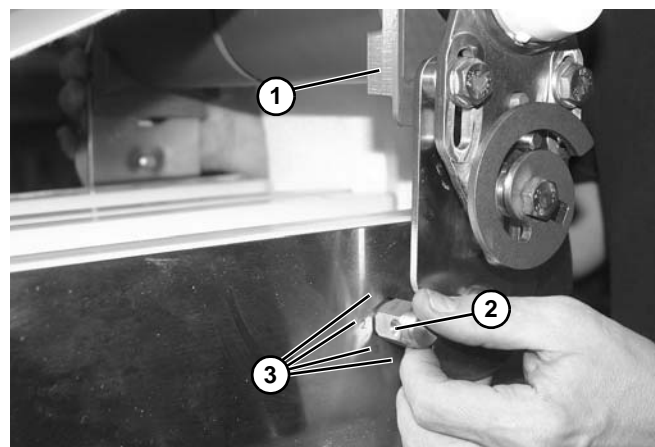

Figure 50
2. Rotate idler tail (Figure 50, item 1) up as shown. Pull out and rotate dimpled end of hex bar (Figure 50, item 2) into one of four locations (Figure 50, item 3) marked on the side of conveyor frame.